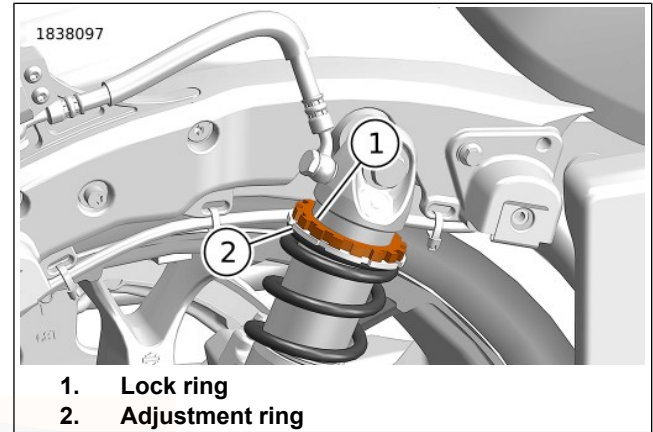

Figure 13. Preload Adjuster
4. See Figure 13. Turn the lock ring (1) on right shock CCW to MIN using the provided spanner wrench tool.
5. Turn the adjustment ring (2) CW until the distance from the top of the adjustment ring to the bottom of the lock ring matches the calculated preload distance determined in steps 2 and 3. Refer to Table 21.